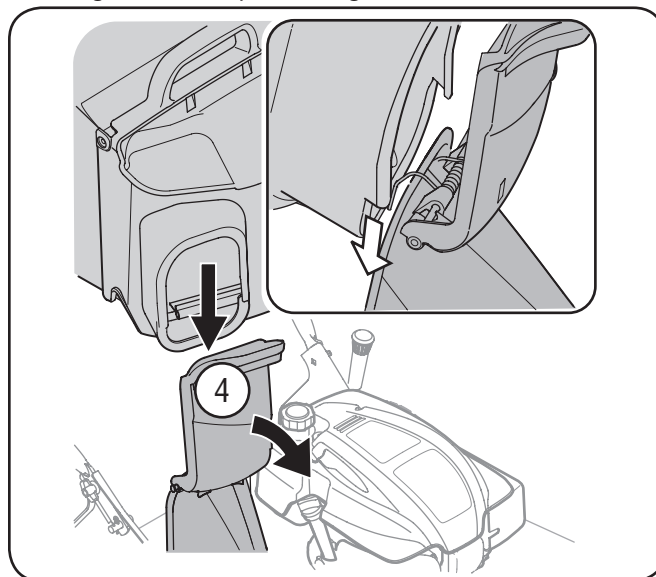

Figure 3-6
4. Lift chute door on the grass bag adapter and slide grass bag onto the adapter. See Fig. 3-6.